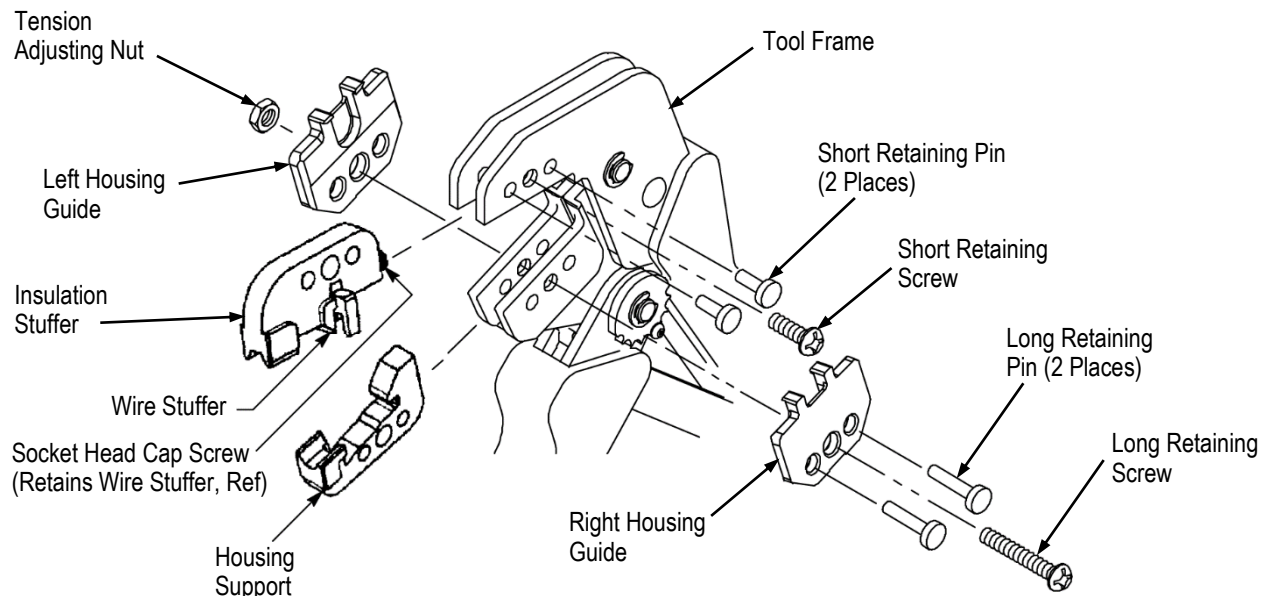

Figure 2
2. Orient the insulation stuffer as shown in Figure 2, and insert it into the stationary jaw of the tool frame. Align the holes with the associated holes in the tool frame. Insert the short retaining pins and short retaining screw into the holes in the tool frame. Tighten the screw.
3. Orient the housing support as shown in Figure 2, and insert it into the moving jaw of the tool frame. Align the holes with the associated holes in the tool frame. Orient the right housing guide as shown, and mount it onto the tool frame using the long retaining pins. Insert the long retaining screw through the hole in the right housing guide. Tighten the screw.
4. Refer to Figure 2. Orient the left housing guide as shown, and secure it onto the tool frame using the tension adjusting nut. Tighten the tension adjusting nut using an assembled modular plug connector assembly.
1. Install the wire stuffer onto the insulation stuffer using the 4-40 UNC .621 in. socket head cap screw included with the die assembly. Refer to Figure 2.